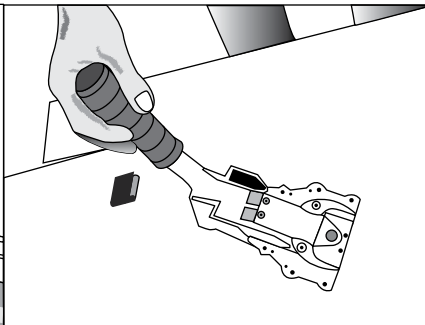

Figure 11
2. Remove the magazine assembly. (See Figure 11)